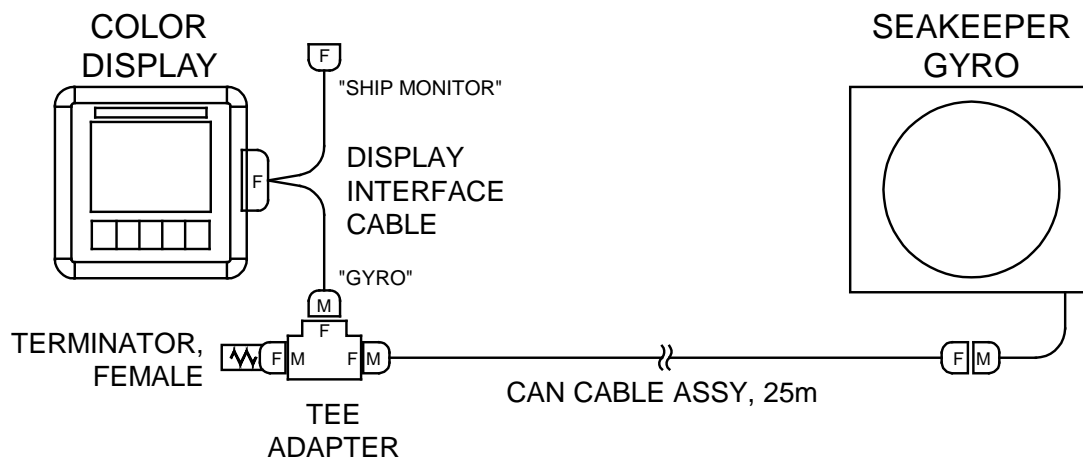

FIGURE 10 – SERIAL COMMUNICATIONS LINK FOR OPERATOR STATION
- Figure 10 below shows the CANbus communications link for the Operator Station. The Terminator goes on one the far end of the Tee Adapter from the Gyro.